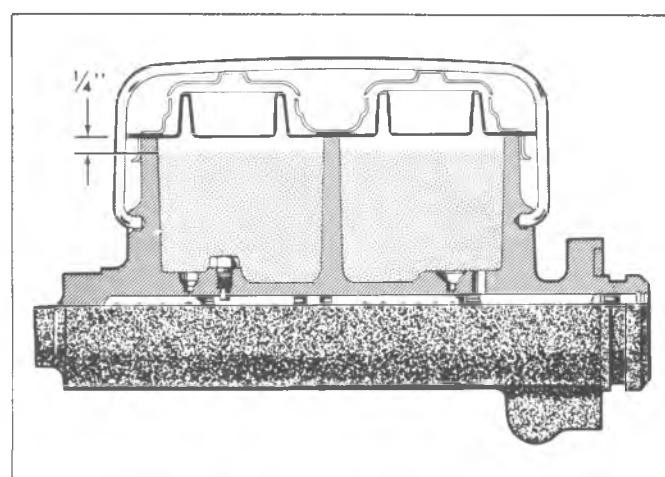

Fig. 31--Correct Fluid Level
11. Fill master cylinder reservoirs to within  $\frac{1}{4}$ " of reservoir rims as shown in Figure 31.
7. Fill the master cylinder to the level shown in Figure 31.